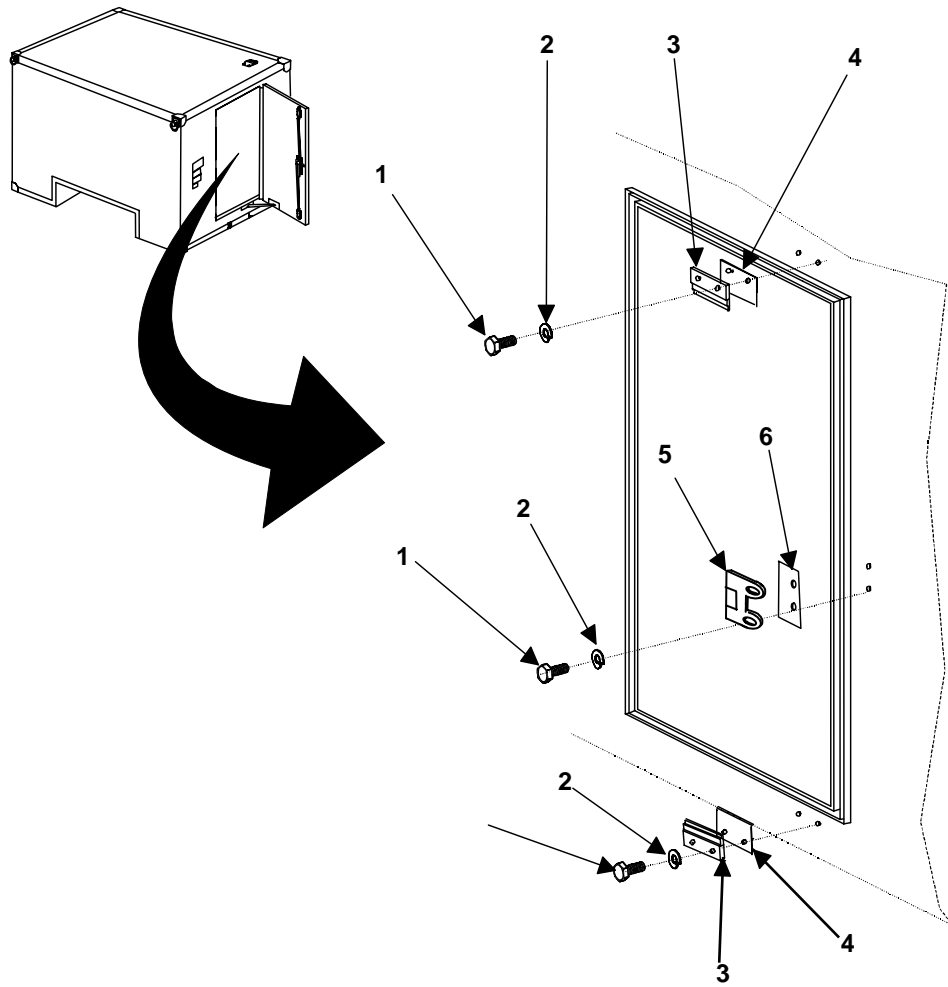

Figure 1. Shelter Door Adjustment.
1. Open door Remove two bolts (figure 1, item 1) and lock washers (figure 1, item 2) securing striker plate (figure 1, item 3) at the location requiring adjustment.
2. Insert approximately 0.032 inch aluminum alloy shim(s) (figure 1, item 4) between striker plate (figure 1, item 3) and door panel, to a maximum thickness of three shims.
3. Locate proper striker plate (figure 1, item 3 or 5) with added shim(s) (figure 1, item 4 or 6) to door and secure with two bolts (figure 1, item 1) and lock washers (figure 1, item 2).